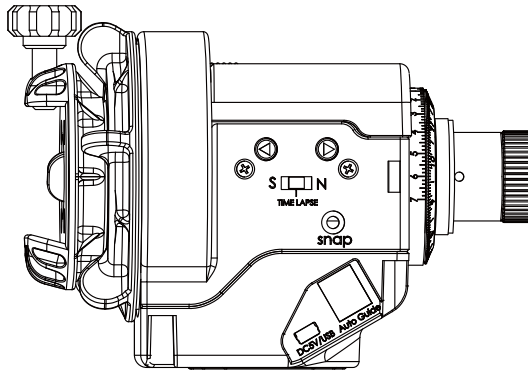

Fig 31
3. Slide the **Slide Switch** to **N** if you are in northern hemisphere (Fig 31).